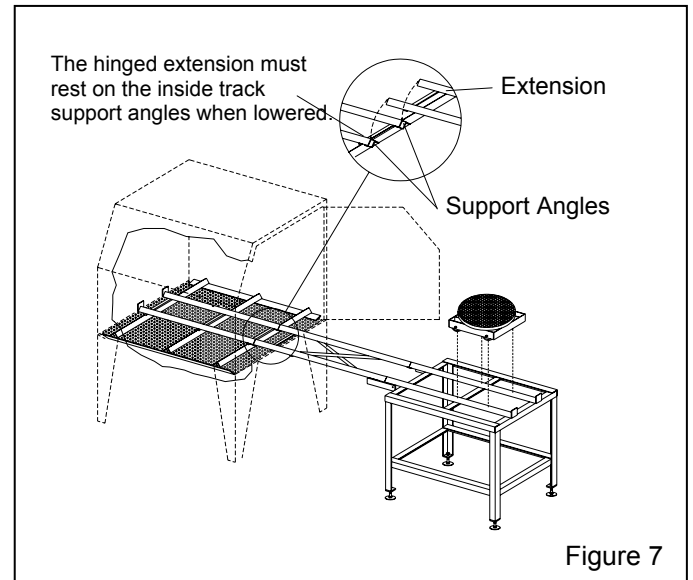

Figure 7
**3.4.3** Position the track support table and extension as shown in Figure 7. When the hinged extension is lowered, the extension tracks must rest on the angled locating supports welded to the bottom of the inside tracks, and butt against the inside tracks.